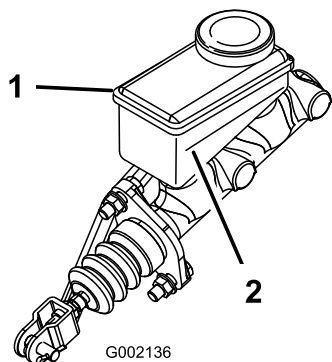

**Figure 84**
4. Raise the hood to access to the master brake cylinder and reservoir (Figure 84).
- A. Clean the area around the reservoir cap and remove the cap (Figure 84).
- C. Install the reservoir cap (Figure 84).